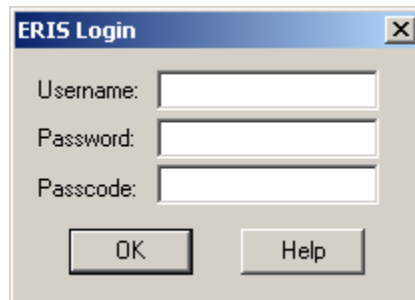

Figure 20 ERIS Login Dialog
9. Now go to the Command Processing application. **Select** the POIC destination in the Command Processing application's main window destination list. The row should be highlighted. Go to the **Destination** menu in the Command Processing application and select **Activate Destination**. You will see the color of the destination change to purple and the status change to initializing. You will also be prompted with the ERIS Login dialog shown in Figure 20.